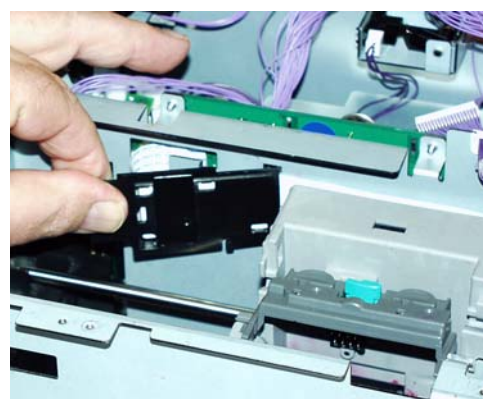

Figure 5-40 Installing Cable Keeper
**NOTE:** To reinstall keeper, position rear tabs in cutout first as shown in Figure 5-40, then align the front tab with the corresponding cutout. Pull out the lower rear locking tab slightly and snap the front of the keeper into position.